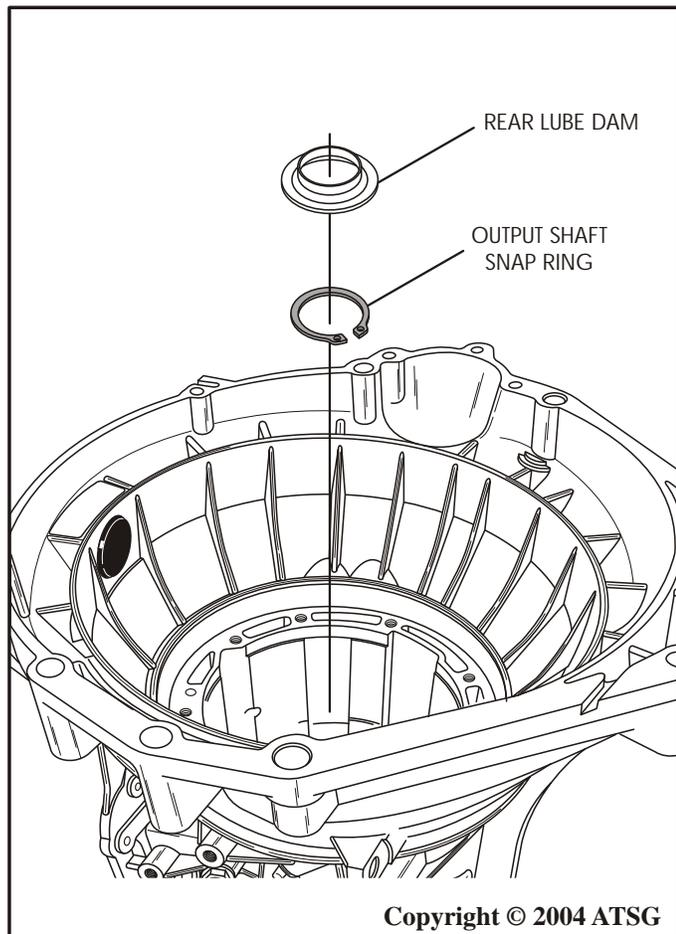

Figure 142
14. Install a **new** output shaft snap ring onto output shaft, as shown in Figure 142, and ensure that it is fully seated.
- 15. Install the plastic rear lube dam into the ring gear in the direction shown in Figure 142.